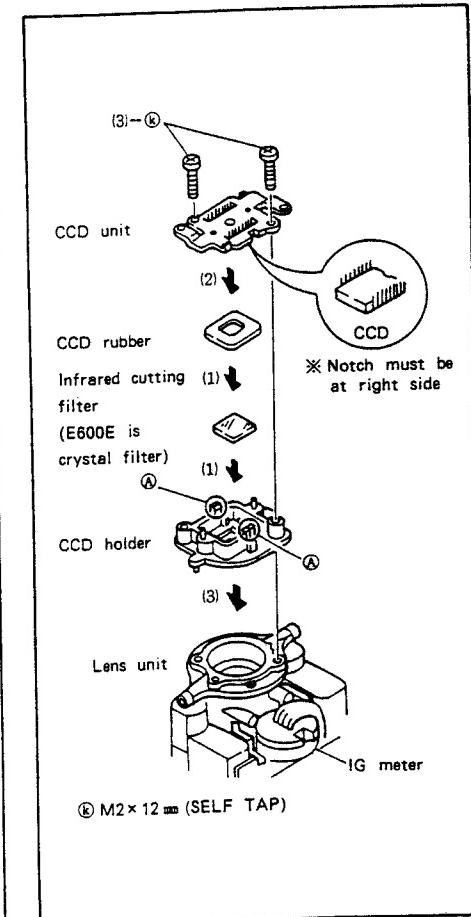

Fig. II-18
- (1) Install the infrared cutting filter (E600E is crystal filter) and then the CCD rubber on the CCD holder.
- (2) Install the CCD unit on the CCD holder.
* Notes: 1. Check the directivity referring to the Fig. II-18.
2. Push the unit until the two hooks (A) are completely hooked.
- (3) Install the CCD holder on the lens unit, and fix it with two screw (k)s.
* Note: Check the directivity referring to the Fig. II-18.